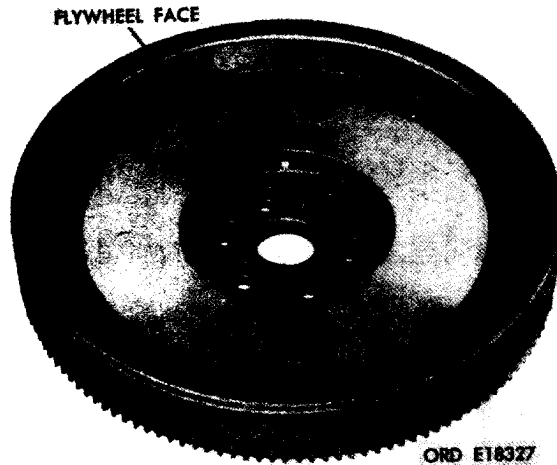

FIGURE 399. INSPECTING FLYWHEEL FACE.
- (1) Cleaning. Clean the flywheel assembly (K) directed in paragraph 152 c.
- (2) Inspection. Inspect the flywheel assembly directed in paragraph 153 b. Examine the teeth of the ring gear (fig. 398) for cracks, broken teeth, and wear. Inspect the face of the flywheel (fig. 399) for scoring and burns.
b. Repair. Repair the flywheel assembly (K) as directed in paragraph 154 b. Replace the gear ring when teeth are broken, cracked, or worn. This is accomplished by cutting ring gear with hacksaw and splitting the ring gear with a cold chisel as instructed in figure 398. Heat new ring gear using welding equipment until gear heats up to 400° F. Position ring gear on flywheel using pliers, making sure the beveled edge of the ring gear teeth face crankshaft mounting recess in flywheel. Minor scoring and burns of the flywheel may be repaired by resurfacing the flywheel face (fig. 399). Total amount of stock removed from flywheel face will not exceed 0.062 from new part size. Replace flywheel when excessively damaged.